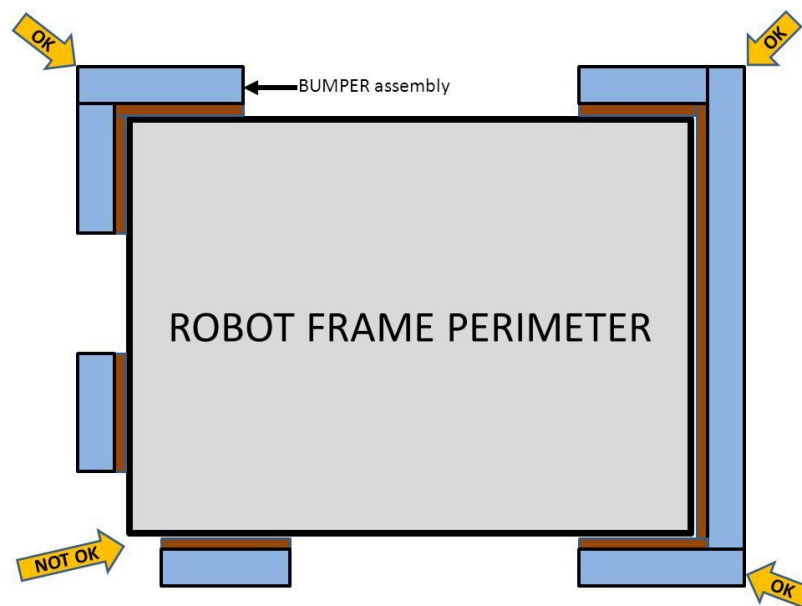
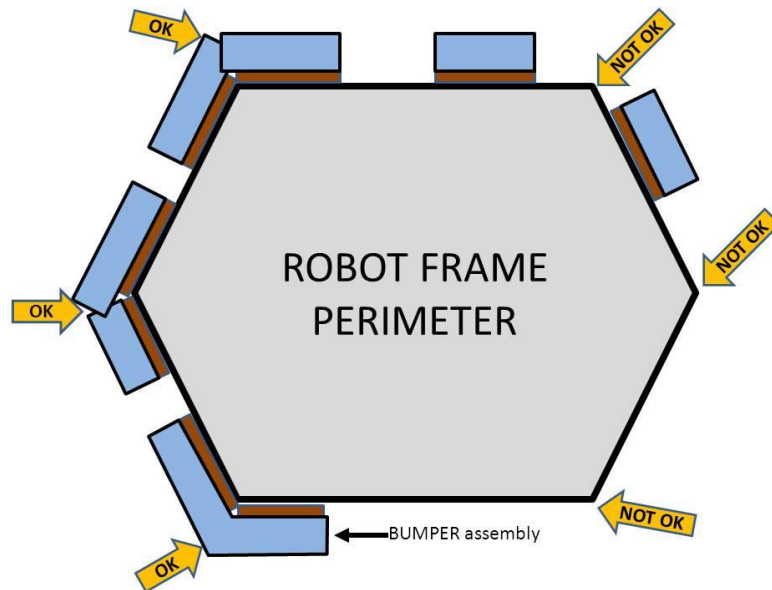
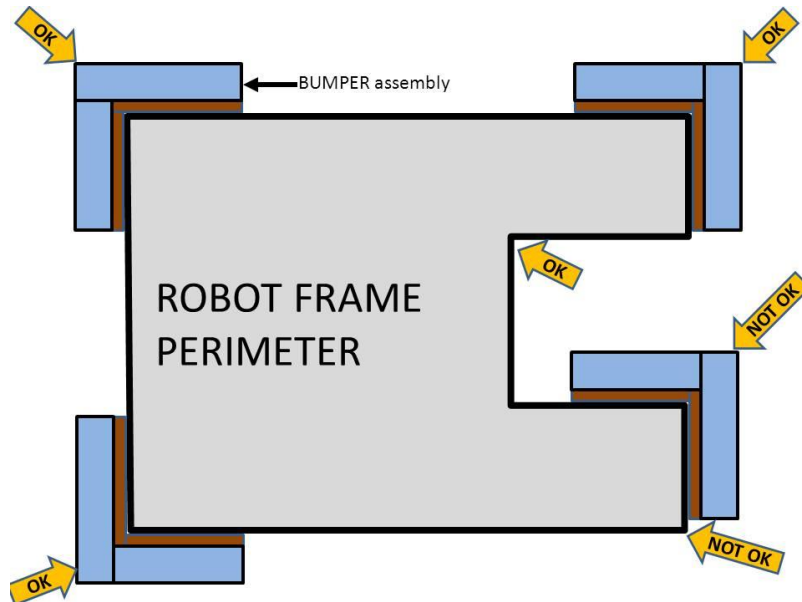

Figure 4-1
Figure 4-2
Figure 4-3
- [R27] Robots are required to use Bumpers to protect all exterior vertices of the Frame Perimeter. For adequate protection, at least 8 in. of Bumper must be placed on each side of each exterior vertex (see Figure 4-1, Figure 4-2, and Figure 4-3).